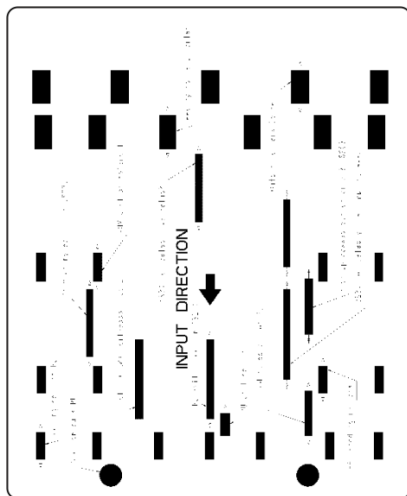
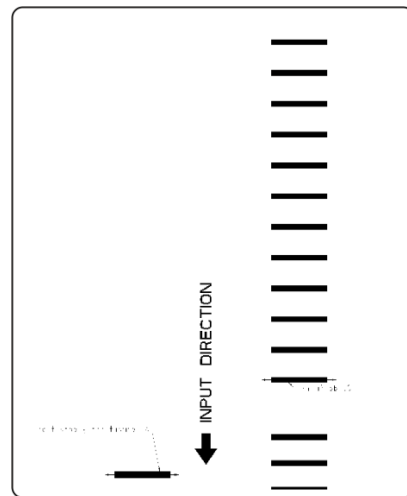

Figure 34: Test image
Figure 35: Test image
- (1) Clean the Print Head. See Technical Documentation DRYSTAR 5500/5503, chapter 3.6, section "Check for dust stripes".
- (2) In case this does not improve the stripes, print the image 'footprint_horizontal.tif' (for horizontal stripes) or 'footprint_vertical.tif' (for vertical stripes) from the service menu "8 Adjust & Calibrate - 4 Print Test image - Footprint_xxx.tif". See Figure 34 and Figure 35.